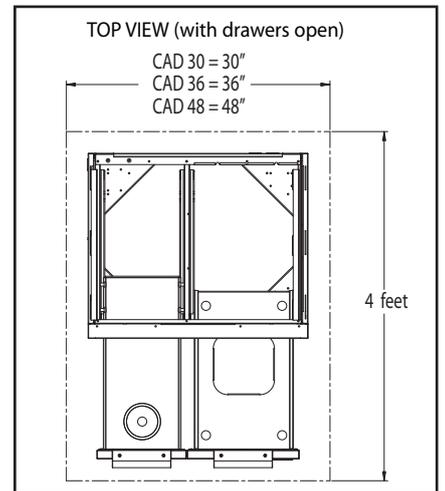

Fig. 04
For proper use, this product should be installed/positioned on a flat ground or patio. Unevenness such as bumps, cracks and protrusions should be 1/4" or less. Refer to Fig. 04 for required flat area dimensions.
1. To link your carts together - hand tighten 2 bolts, 4 washers, and 2 nuts on the front and back sides of the carts as shown in Fig. 04. Carefully wrench tighten fasteners once carts are aligned with each other.